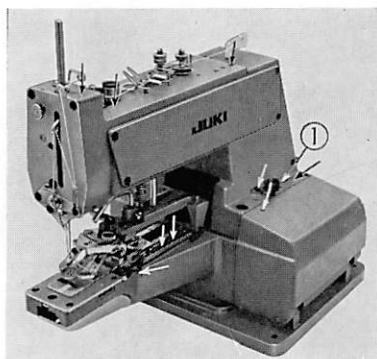
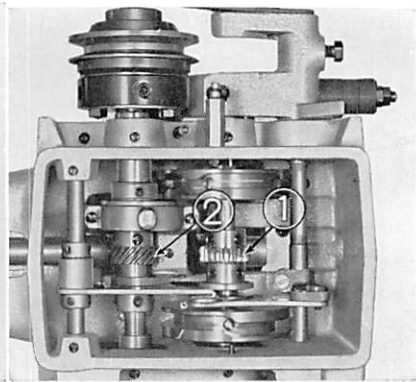

Fig. 1
Fig. 4
5. LUBRICATION (Refer to Fig. 1, 2, 3, and 4)
Also, loosen the machine arm and bed set screw ①, Fig. 1, and if the machine is tilted as shown in Fig. 4, you can see the driving gear ① and the looper shaft driven gear ②. Grease these gears too. Sometimes check and see if the oil comes up to the surface of the felt inside the machine sub-base and if not, fill up with oil.